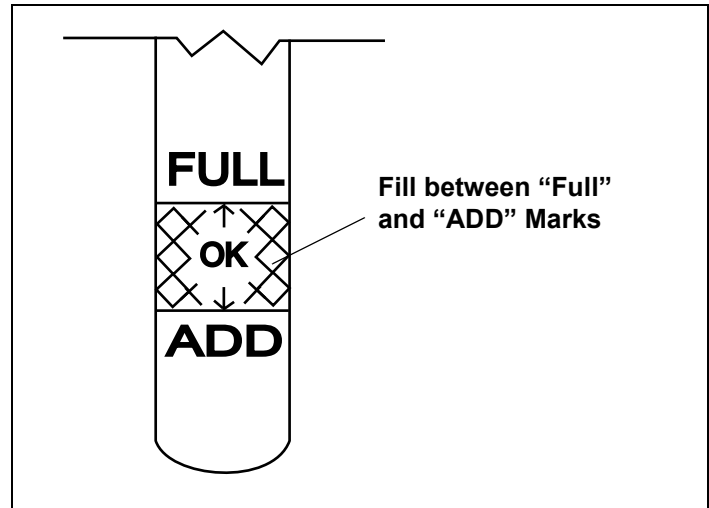

Figure 6. Engine Oil Level
- Keep oil level between “FULL” and “ADD” marks on dipstick. See Figure 6.
4. Unscrew and remove oil fill cap from oil filler tube. Note oil level. If oil reading on dipstick is below “ADD” mark, slowly add oil to reach “FULL” level. See Figure 6.